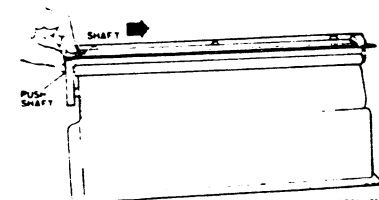

Figure 2. Replacing the Brush Dispenser
2. PUSH THE BRUSH DISPENSER SHAFT TO THE RIGHT AND AGAINST THE MOUNTING HOLE IN THE DISPENSER ASSEMBLY ENSURE THAT THE BRUSH DISPENSER IS FULLY SEATED (FIGURE 2).